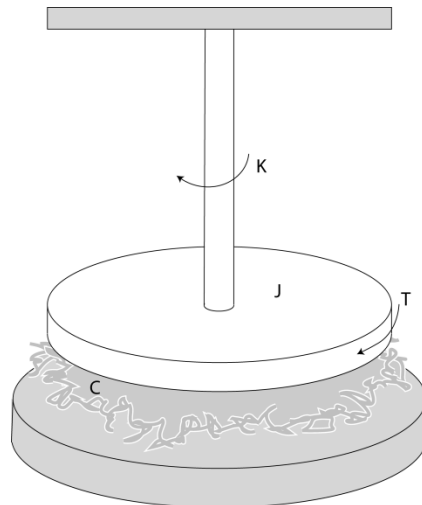

Figure 2: 1 DOF Mechanical Torsional System
- For the system in Figure 2, express the damping ratio,  $\zeta$ , natural frequency,  $\omega_n$ , and static gain,  $K$ , in terms of  $J$ ,  $c$  and  $k$ .